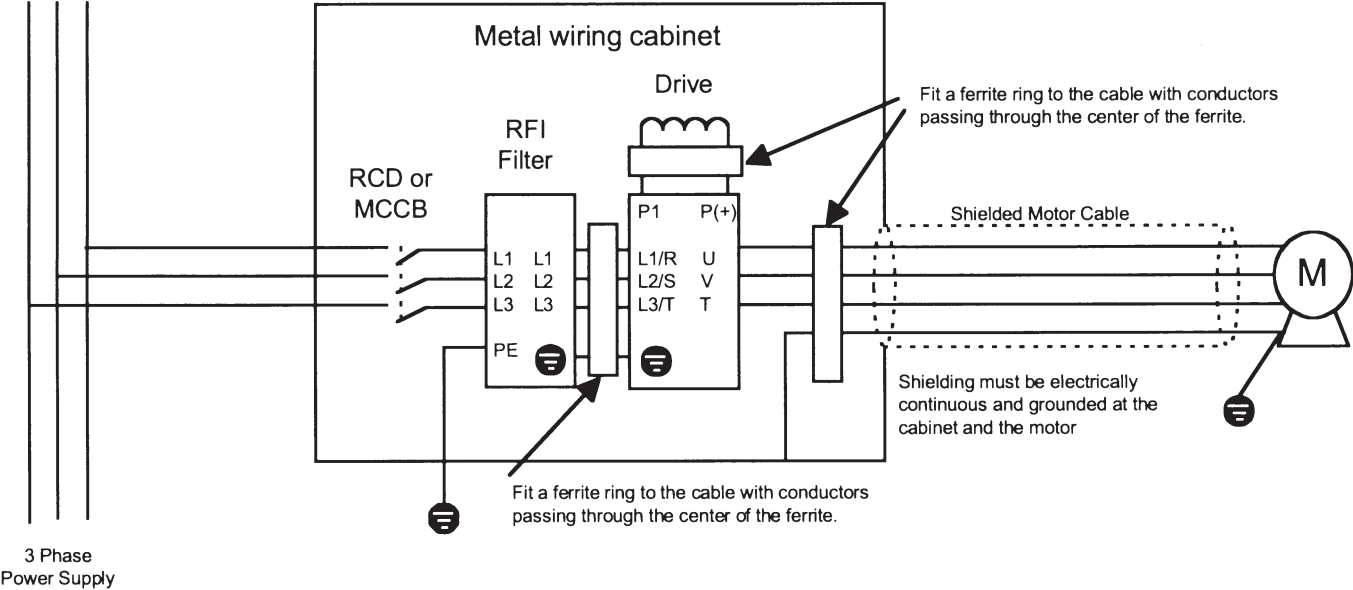

Figure 7 460V 400 Hp and higher
- 6) In the case where a ferrite ring is provided with the filter, fit the ferrite ring so the conductors pass through the center of the ferrite. Wire the cable according to Fig.6 or Fig.7 , paying attention to the applied Drive type.